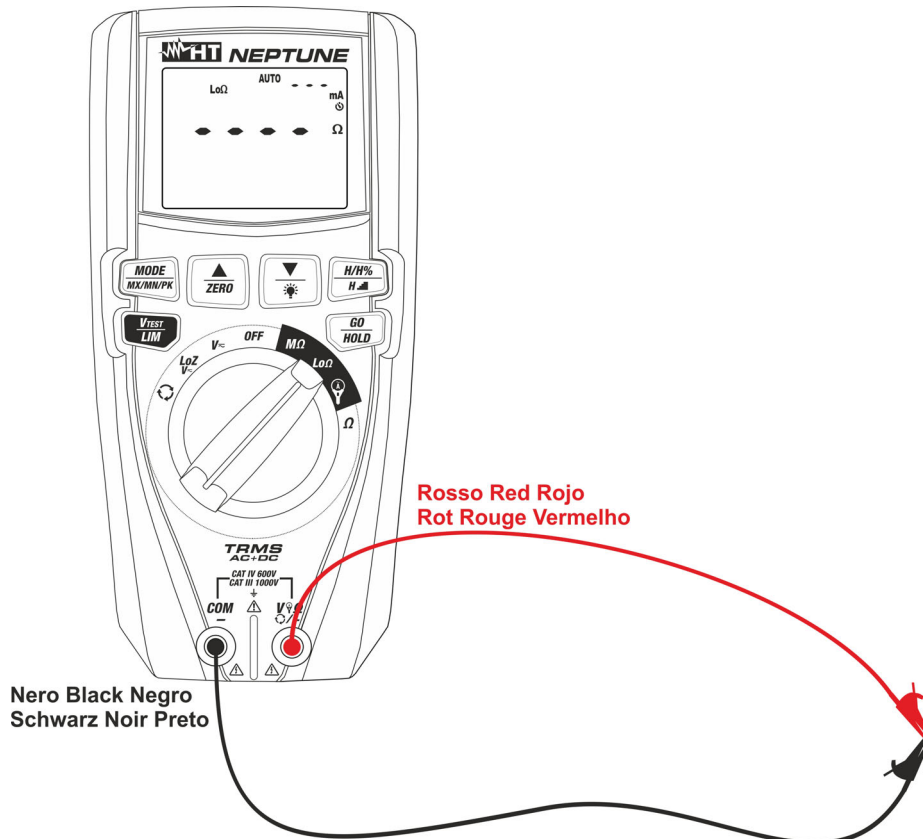

Fig. 32: Connection of the cables in compensation function
2. Insert the test cables into input terminal **VΩΩ/+** and **COM/-**, connect the alligator clips and short-circuit the cable ends between each other (see Fig. 32).